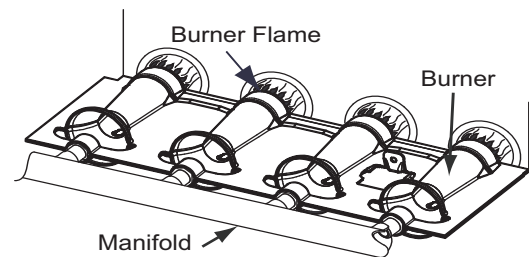

Fig. 24 – Burner Flame
NOTE: Gas valve regulator seal cap **MUST** be in place when checking input rate. When correct input is obtained, main burner flame should be clear blue, almost transparent, see Fig. 24. Be sure regulator seal cap is in place when finished.
8. When correct input is obtained, main burner flame should be clear blue, almost transparent, see Fig. 24.
13. When correct input is obtained, main burner flame should be clear blue, almost transparent, see Fig. 24.
15. Turn setup switch SW1 (TT) on furnace control to OFF position.
NOTE: When correct input is obtained, main burner flame should be clear blue, almost transparent, see Fig. 24.